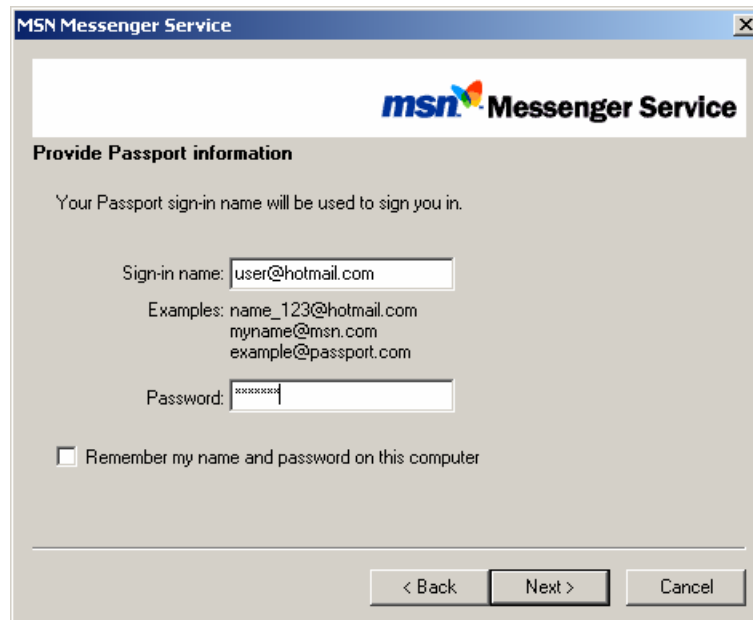

Figure E.4. Entering Your Passport Information
- Once you have established a Passport, you will be asked to provide your Passport for the installation, as shown in **Figure E.4**. Enter your **Sign-in name** and **Password**. Click the **Next** button to continue.